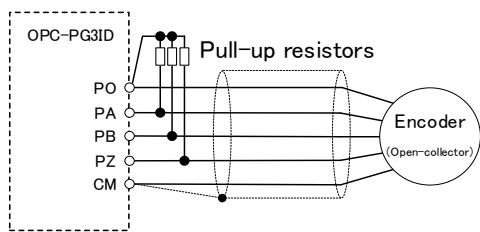
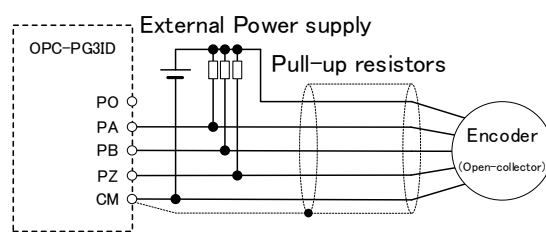

Figure 9.2 Application of Pull-up resistors
Figure 9.3 Application of Pull-up resistors and External power supply
- \*3 External pull-up resistors may be necessary between PO and PA, PB, PZ depending on maximum pulse frequency and encoder wiring length when open-collector type encoder is applied. If PO current exceed its maximum values due to the pull-up resistors, the external power supply for the encoder may be necessary. Refer to Figure 9.2, Figure 9.3, Table 9.1, Table 9.2 Table 9.3. The stray capacitance of encoder wiring is 0.3nF/m or less per phase for guide line of the installation.